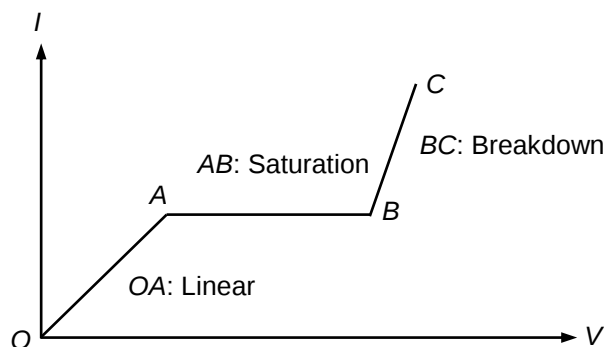

Fig. 1.14: The *I*-*V* characteristic curve for an intrinsic semiconductor.
5. The *I*-*V* characteristic curve for an intrinsic semiconductor is shown in Fig. 1.14: